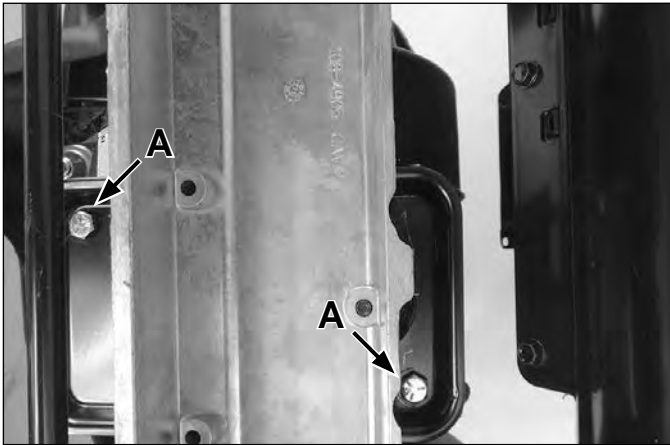

Fig. 014
7. From the underside of the chassis, remove the two engine mounting bolts (A) (Fig. 014).